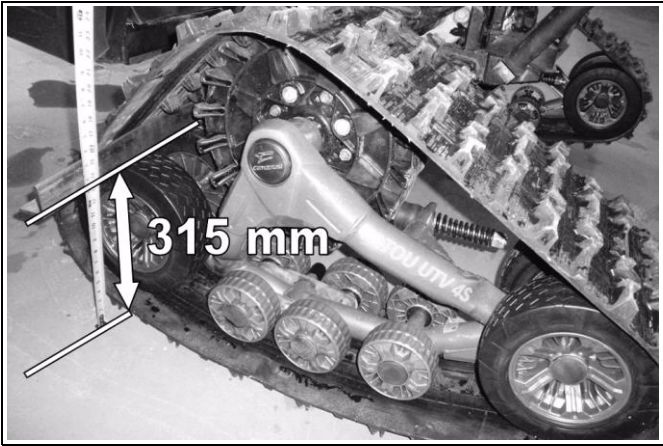

Figure 4
- Install a flat bar on rear wheels of the track systems and measure the height as shown on Figure 4.